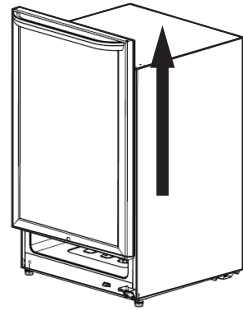
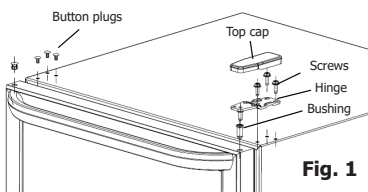

Fig. 2
Fig. 1
1. Remove top cap. Remove the three screws that hold the upper hinge (right side) to the top of the cabinet. See Fig. 1.
2. Carefully remove top hinge (See Fig. 1.), then lift the door up off of bottom hinge and place it on a padded surface to prevent scratching it. See Fig. 2.
3. Remove the three button plugs from the upper left corner of the cabinet and transfer them to the holes on the opposite side. Be sure to press the button plugs firmly into the holes. See Fig. 1.